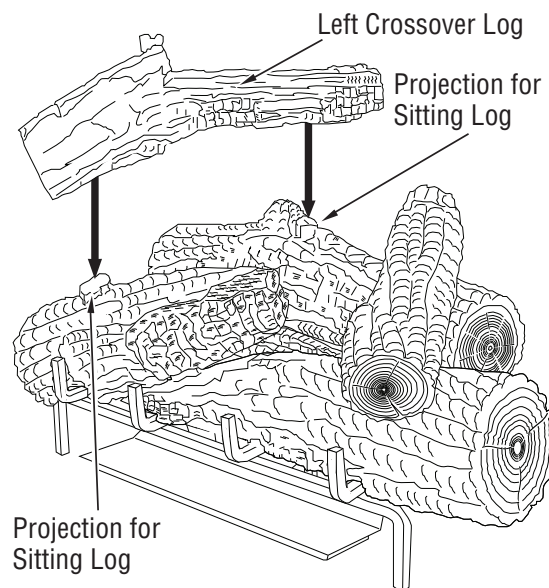

Figure 38 - Installing Left Crossover Log
6. Place the left crossover log onto the rear log and the left front log as shown in **Figure 38**. The left crossover log has notches in the